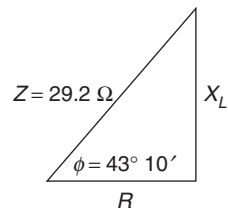

Fig. 30
17. Find R and X_L in Figure 30.